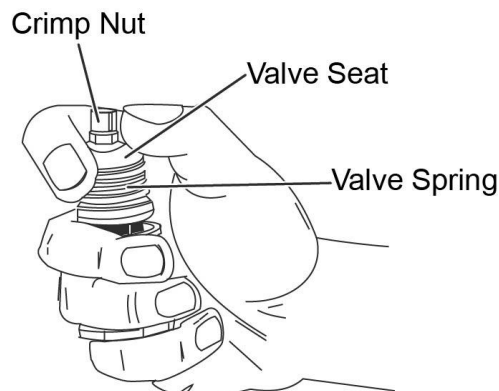

Figure 1
This Service Bulletin contains instructions for a mandatory inspection of the crimp nut on the thermostatic oil cooler bypass valve on affected Lycoming engine models. This required inspection is in response to field reports of loose crimp nuts that can drop into the engine and cause engine damage. The required inspection herein ensures that the crimp nut (Figure 1) is securely seated on the shaft.
2. Hold the thermostatic oil cooler bypass valve and compress the valve spring with the forefinger and thumb (as shown in Figure 1) to separate the valve seat and retaining nut.